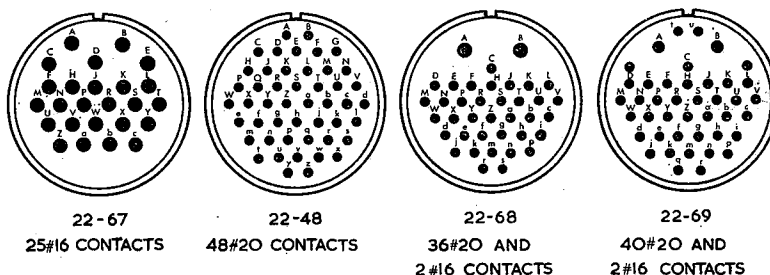

Fig. 4. Contact arrangements
10. The full range of contact arrangements and insert sizes is shown in Fig. 4.
12-7—Contact arrangement—(Fig. 4)